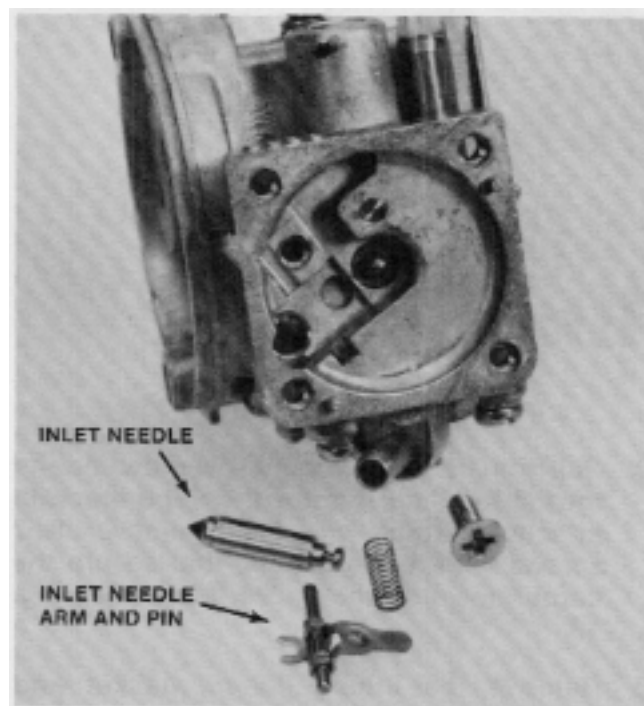

Figure 23
4. Remove the inlet needle pieces from the carburetor by removing the inlet needle pin set screw and carefully lifting out the inlet needle arm with inlet needle pin, the inlet valve spring and the inlet needle valve. See Fig. 23.